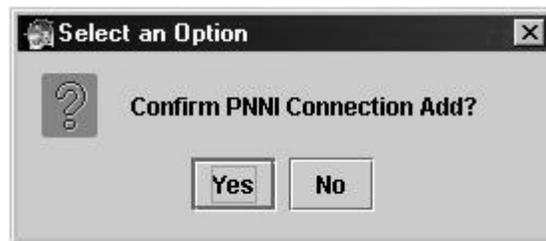

Figure 8-2: Confirm New PNNI Connection Dialog
8. Click **NEW**. The Select an Option dialog displays. See Figure 8-2.